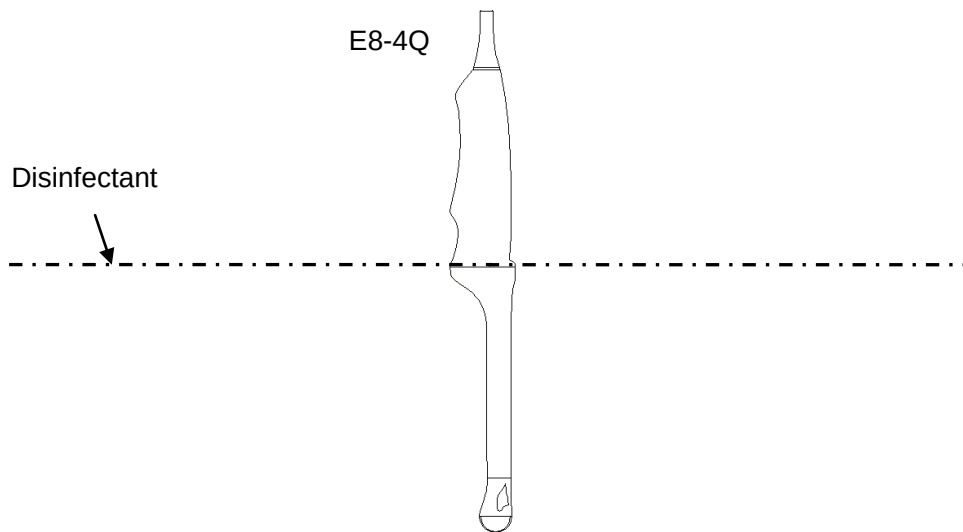

Figure 6-3 Depth of the Transducer Immersed into Disinfectant
4. Place the cleaned and dried transducer in contact with the disinfectant (refers to figure 6-3 for the contacting area) for the time specified by the disinfectant manufacturer.
7. Patient contact area should be immersed into the solution while using the immersion method, but should not exceed the depth shown in figure 6-3.